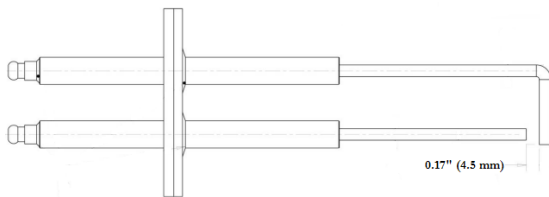

Figure 28: Ignitor Electrode Gap
- v. After reinstalling the ignitor, make sure there is a $\frac{3}{8}$ inch gap between the ignitor and the burner surface. Refer to Figure 28 "Ignitor Electrode Gap" for details.